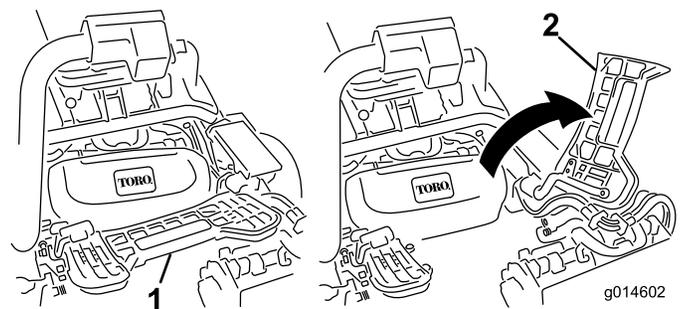

Figure 34
2. Lift up on the foot rest and swing it open, allowing access to the center cutting unit position (Figure 34).